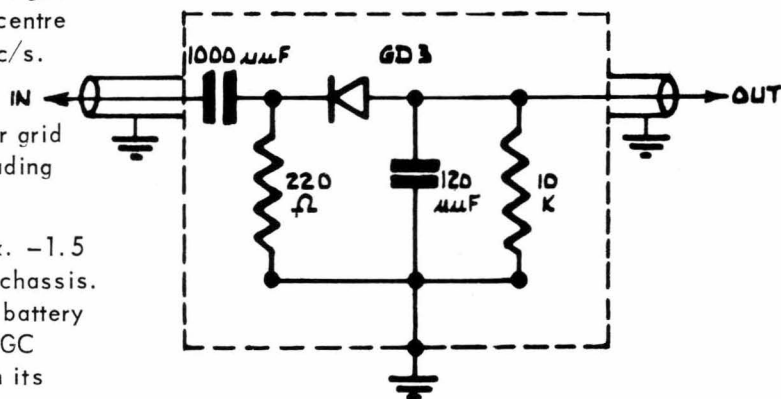

Fig. 13
6. Connect the oscilloscope, through the probe circuit shown in Fig. 13 between pin 7 of V6 and the chassis.
2. Connect the oscilloscope to the plate test point of the turret unit via a low impedance crystal detector probe Fig. 13.